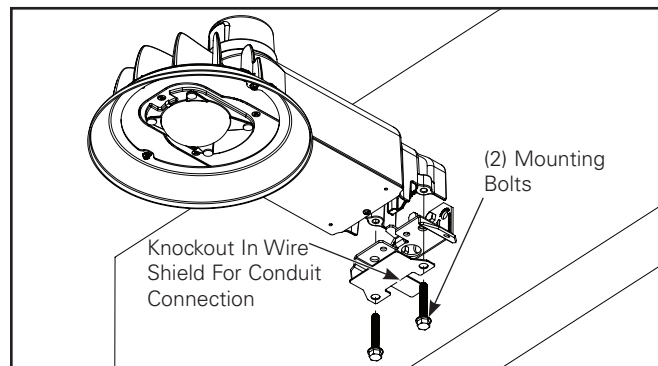
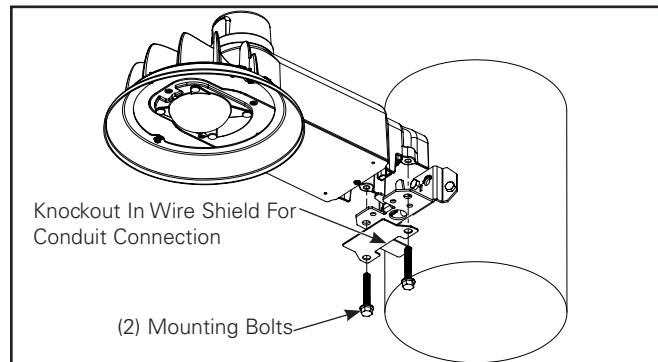

Figure 4.
Figure 5.
5. Using 1/2" socket, install wire shield as shown with the two fixture mounting bolts up through the wall/pole bracket and into luminaire. If connection to conduit hole in the bottom of mounting bracket is preferred, remove the knockout tab on the wire shield. Tighten to 6-8 ft-lbs. (Figure 4 & Figure 5.)